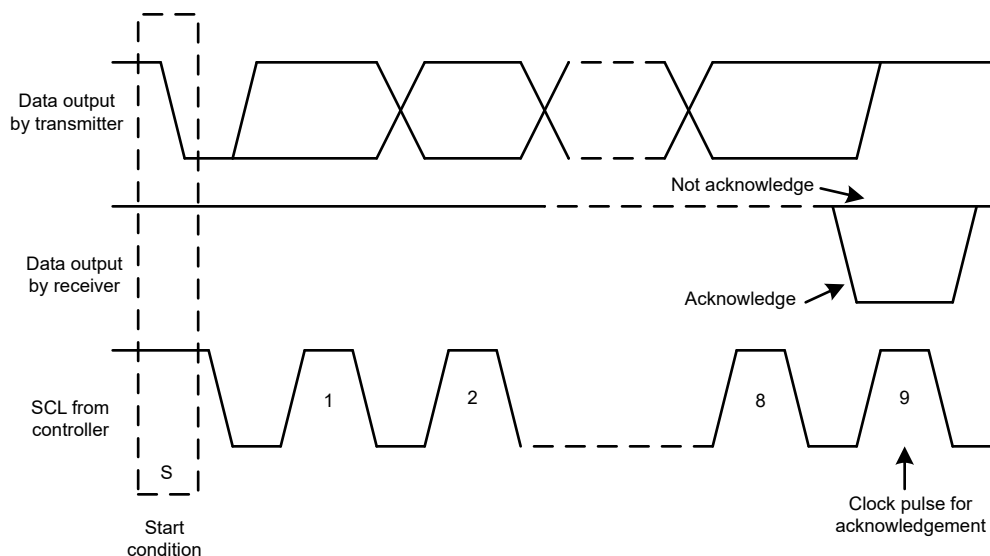
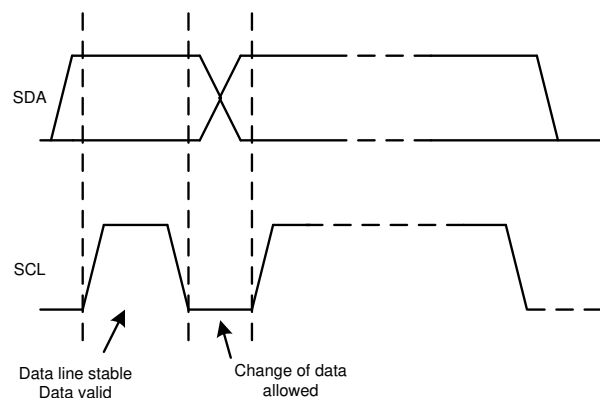

Figure 7-18. Acknowledge and Not Acknowledge on the I²C Bus
Figure 7-20. Bit Transfer on the I²C Bus
Other than specific timing signals, the I²C interface works with serial bytes. At the end of each byte, a ninth clock cycle generates and detects an acknowledge signal. An acknowledge is when the SDA line is pulled low during the high period of the ninth clock cycle. A not-acknowledge is when the SDA line is left high during the high period of the ninth clock cycle, as shown in Figure 7-18.
2. The controller then generates the SCL pulses, and transmits the 7-bit address and the read/write direction bit ($R/\overline{W}$) on the SDA line. During all transmissions, the controller makes sure that data are valid. A valid data condition requires the SDA line to be stable during the entire high period of the clock pulse, as shown in Figure 7-20. All devices recognize the address sent by the controller and compare the address to the respective internal fixed address. Only the target device with a matching address generates an acknowledge by pulling the SDA line low during the entire high period of the 9th SCL cycle, as shown in Figure 7-18. When the controller detects this acknowledge, the communication link with a target has been established.